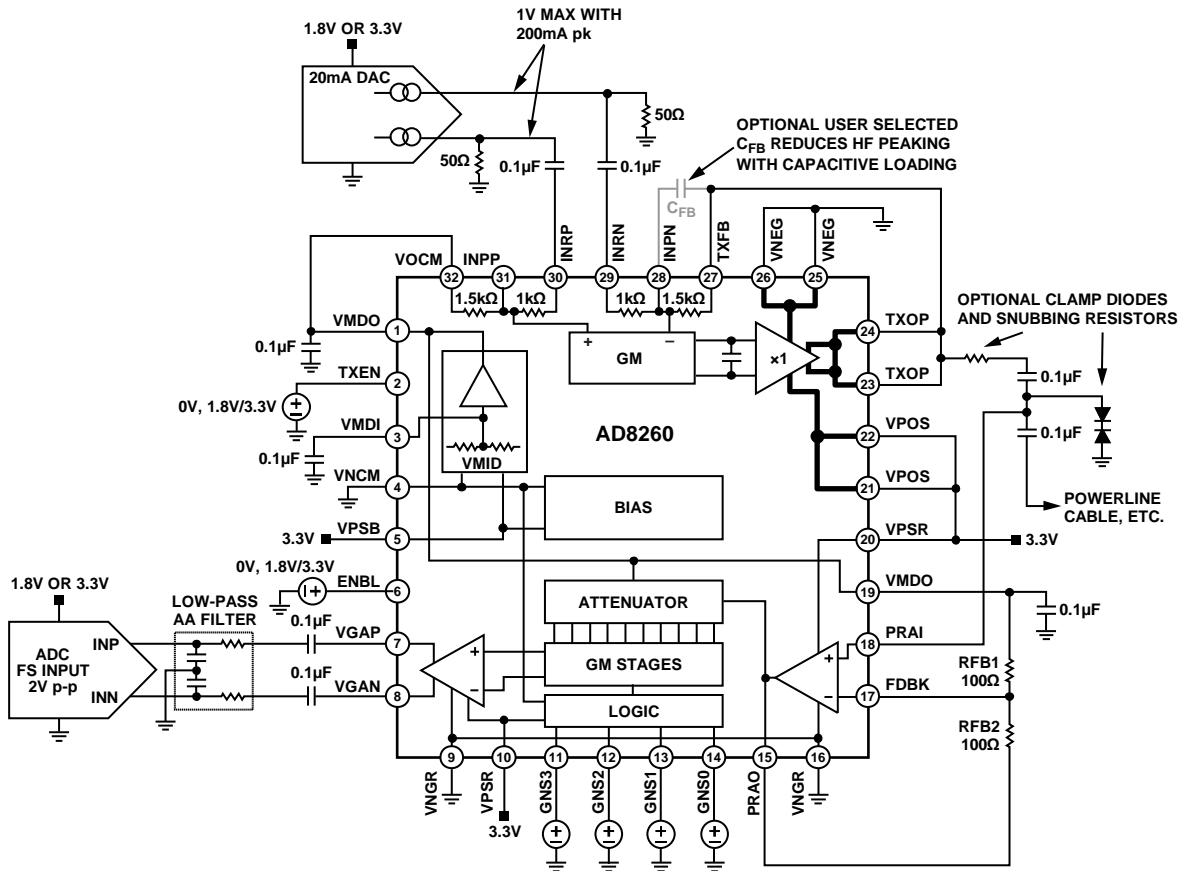

Figure 64. Block Diagram and Basic Application Connections
The AD8260 is a self-contained transceiver intended for analog communications using a power line as the media. Operating on supplies as low as 3.3 V, it includes a high current driver usable as a transmitter and a low noise digitally programmable variable gain amplifier (DGA), usable as a receiver (see Figure 64). An uncommitted current-feedback high frequency op amp acts as a preamplifier and interface to the DGA and is user configured for gains greater than 6 dB. Combined, the VGA and preamplifier are usable at high signal levels from dc to 100 MHz, with a small-signal  $-3$  dB bandwidth of 230 MHz. To implement a high current-output VGA, the VGA output can be connected to the driver-amplifier differential input.
4-bit parallel interface. Figure 64 shows the circuit block diagram and basic application connections, and illustrates the envisioned external DAC, ADC, and power-line bus interface connections. The diagram shows the connections for single 3.3 V supply operation; if a dual supply is available, the VMID generator can be shut down and Pin VMDI, Pin VMDO, and Pin VOVM need to be grounded. Note that Pin VNOCM functions as the negative supply for the bias and VMID cells, plus the logic interfaces, and should always be tied to ground.
For optimal dynamic range, it is important that the inputs and outputs to both the driver amplifier and the preamplifier and the DGA output amplifier be ac-coupled in a single-supply application. In Figure 64, the DAC and ADC are presumed to operate on a 1.8 V or 3.3 V supply with a corresponding limited output and input swing. The DAC outputs are currents that point down and generate a voltage in the  $50\ \Omega$  resistors that are connected to ground. The maximum voltage with a peak DAC output current of 15 mA is 0.75 V; if a DAC with a 20 mA peak current is used, then the maximum voltage is 1 V per side for a differential input signal of 2 V p-p.
The high current driver amplifier can deliver very large output currents suitable for driving complex impedances, such as a power line, a 50 Ω line, or a coaxial cable. The input of the amplifier is fully differential and intended to be driven by a differential current-output DAC, as shown in Figure 64. The differential input signal is amplified by 1.5× and produces a 2.25 V p-p single-ended output signal from a 1.5 V p-p input signal. A DAC with 15 mA maximum output current into a 50 Ω load provides 1.5 V p-p of input voltage and results in 2.25 V p-p at the output. A DAC whose output is 20 mA produces an output swing of 3 V p-p (neglecting a small gain error when driving the parallel combination of the 50 Ω load-resistor and the internal 1 kΩ gain resistor of the AD8260).
During receive, when the high current driver-amplifier is disabled, its gain setting resistors provide a signal path from input to output. To prevent inadvertent DAC signals from being transmitted while receiving via the preamplifier and DGA, the DAC in Figure 64 must have no output signal.
The VMID buffer is a dc bias source that generates the voltage on Pin 1 and Pin 19, VMDO. Node VMDO cannot accommodate large dynamic currents and requires excellent ac decoupling to ground. A high quality 0.1μF capacitor located as close as possible to Pin 1 and Pin 19 (see Figure 64) is normally sufficient to decouple the high values of current from Node VMDO.
Referring to Figure 64, the signal path consists of a 30 dB programmable attenuator followed by a fixed gain amplifier of 18 dB for a total DGA gain range of  $-12 \text{ dB}$  to  $+18 \text{ dB}$ . With the preamplifier configured for a gain of 6 dB, the composite gain range is  $-6 \text{ dB}$  to  $+24 \text{ dB}$  from single-ended preamplifier input to differential DGA output.
- Use the internal VMID buffer as shown in Figure 64.